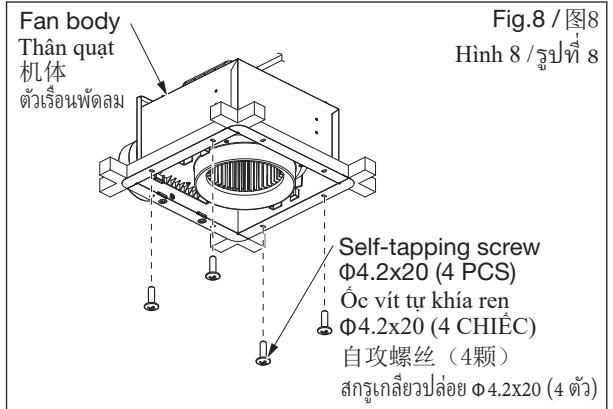

Fig.8 / 图8
- ⑥ Fix fan body firmly with 4 self-tapping screws $\Phi 4.2 \times 20$. (Fig.8)
用自攻螺丝 $\Phi 4.2 \times 20$ (4顆) 将机体牢固的固定 (图8)。